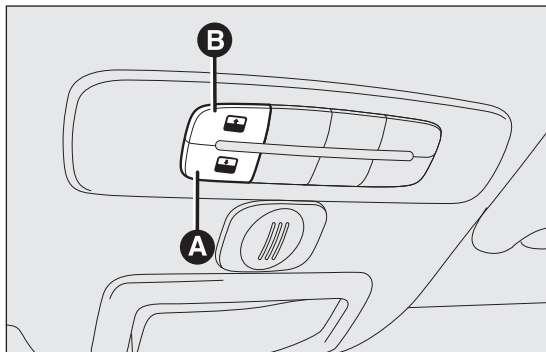

fig. 45
The sun roof can be operated only with the ignition key turned to MAR-ON. The controls A and B fig. 45 are located near the front courtesy light and operate roof closing/opening respectively.
Keep the button B fig. 45 pressed: the roof will move to "spoiler" position. To fully open the roof press the button B again and keep it pressed: the roof will stop in the position reached when the button is released.
Keep the button A fig. 45 pressed: the roof will move to "spoiler" position. The roof will stop in the position reached when the button is released. Press the button A again and keep it pressed until the roof is completely closed.
- ☐ keep the button A fig. 45 pressed so that the roof closes completely in stages